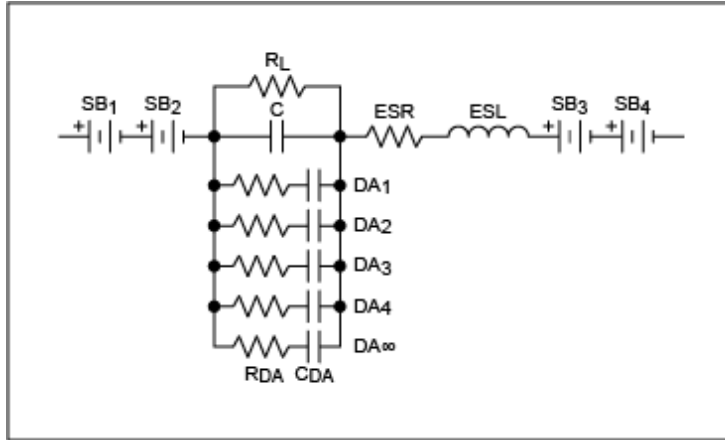

Figure 1. The capacitor (C) and its largest parasitic components.
Passive can be defined as inert and/or inactive. But passive electronic components can become an active part of a circuit in unexpected ways. Consequently, a capacitor that is purely capacitive simply does not exist. All capacitors inherently have parasitic components (**Figure 1**).
Let's take a closer look at the active parasitic components in Figure 1. The capacitor labeled "C" is the one thing that we would like to see; all the rest of the components are unwanted parasitics.¹ The parallel resistor, R_L , causes DC leakage, which can change the bias voltage of the active circuits, spoil the Q factor in filters, and defeat the holding ability of a sample-and-hold circuit.² The equivalent series resistance (ESR) reduces the capacitor's ability to reduce ripple and pass high-frequency signals because the equivalent series inductance (ESL) creates a tuned circuit (i.e., a circuit with self-resonance). This means that above the self-resonance frequency, the capacitor looks inductive and can no longer decouple high-frequency noise from the power supply to ground. The dielectric can be piezoelectric, adding noise from vibration (AC), which would look like a battery inside the C capacitor (not drawn). The piezoelectric effect from the stress of cooling solder can change the value of the capacitor. Polarized electrolytic capacitors can also have parasitic diodes in series (not drawn) and those diodes can rectify high-frequency signals and change bias or add unwanted distortion.
Now we should say something about self-resonance, the most common capacitor issue with decoupling capacitors and poor grounds. No capacitor can do its job if the ground is poor. Capacitance self-resonance is dominated by the effect of the ESL shown in Figure 1. But do not discount the effect of the PCB vias either. At radio frequencies, those vias will affect the self-resonance point of small capacitors. Examine **Figure 2** and concentrate on the 1 μ F curve.